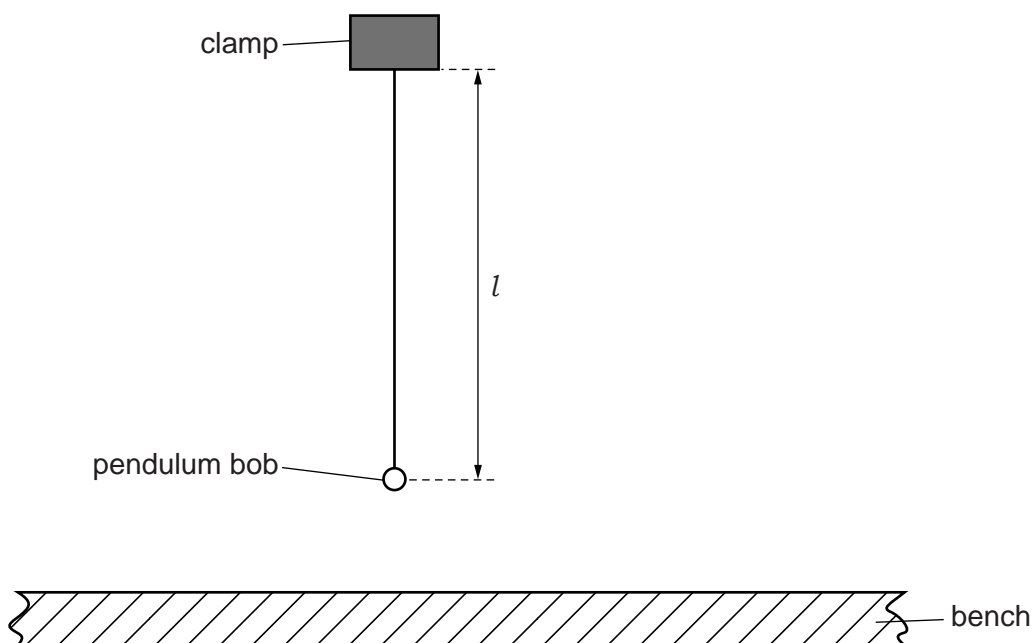

Fig. 1.1
1. The pendulum is to be set up for the candidates as shown in Fig. 1.1. The length l of the pendulum is to be 50.0 cm. The centre of the pendulum bob is to be 5 cm above the surface of the bench.
Check that the apparatus is arranged as shown in Fig. 1.1.